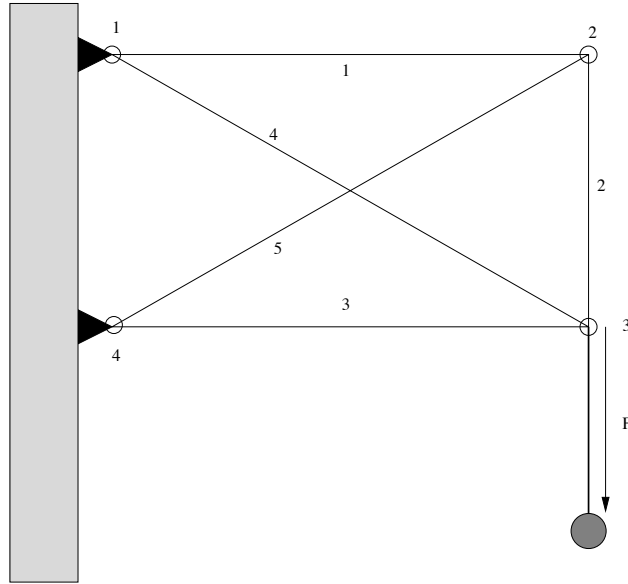

Figure 3: Truss with two supported and two unsupported nodes and five bars.
If nodes in a truss are supported, then the corresponding displacement is deleted from the system. For example, consider the truss in Figure 3. The nodes 1 and 4 are supported. Equation (2) for this truss is given
We use `truss.m` to specify the truss topology of the truss in Figure 3 and `stiff.m` to compute the stiffness matrix S .